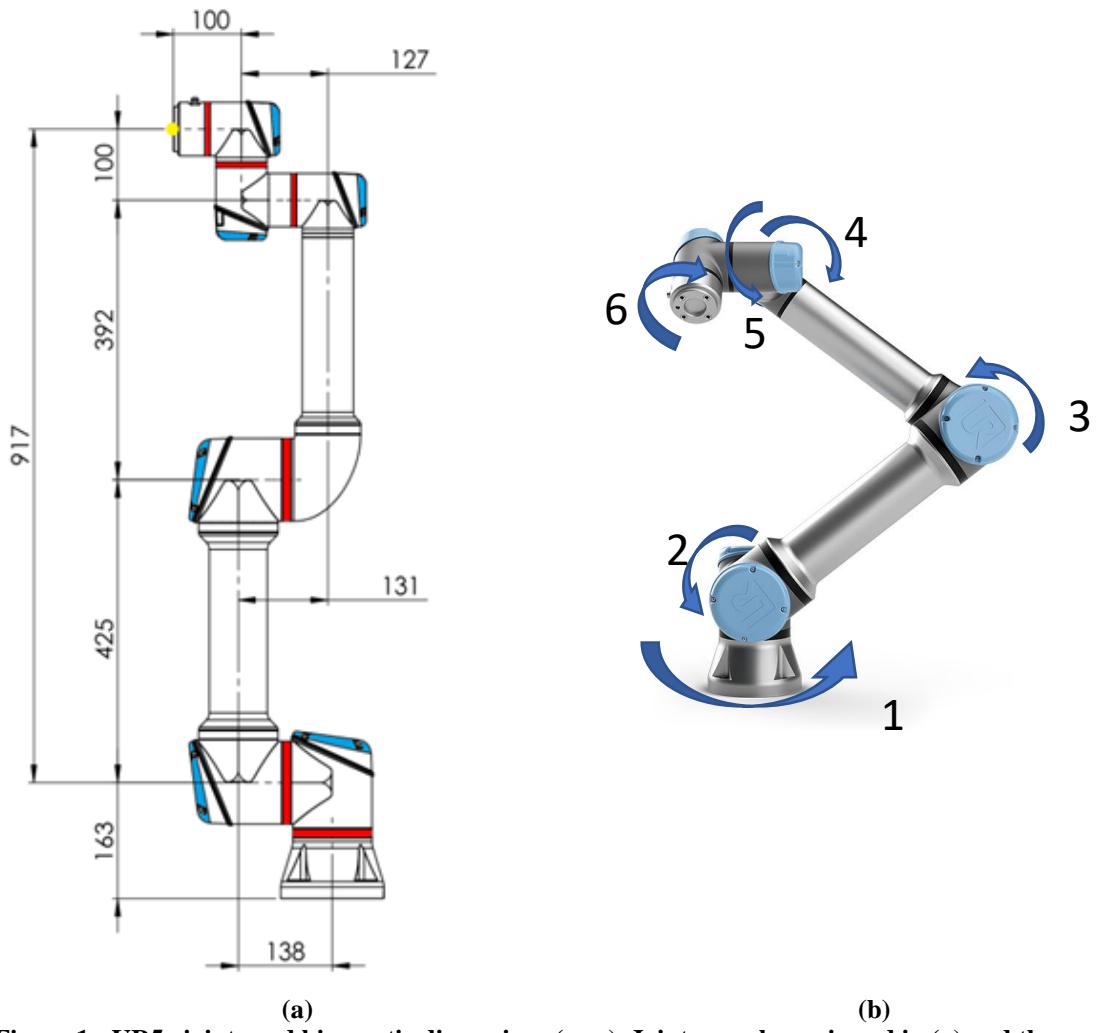

Figure 1 - UR5e joints and kinematic dimensions (mm). Joints are shown in red in (a) and they are marked with arrows in (b).
You might have played with the robot arm UR5e in our lab. It is a six-axis arm with six rotational joints. A structural sketch of the robot can be found in Figure 1 (a) with joints marked in red and dimensions labelled accordingly. Those joints are also shown with arrows in Figure 1 (b). The angles of the six joints, from base to the final wrist, completely define the configuration of the robot, which is called state. Assuming that the robot state is $q[0, -\frac{3\pi}{4}, \frac{\pi}{2}, 0, 0, 0]$:
- a. Derive the forward kinematics with ***modified DH convention*** from the base to its end effector (the yellow point on the Figure 1(a)) in this configuration.